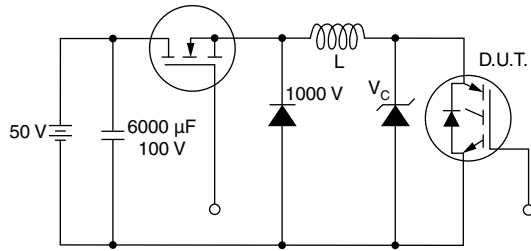

Fig. 19 - Clamped Inductive Load Test Circuit
(2) $V_{CC} = 80\% (V_{CES})$, $V_{GE} = 20\text{ V}$, $L = 10\text{ }\mu\text{H}$, $R_G = 10\text{ }\Omega$ (see fig. 19)